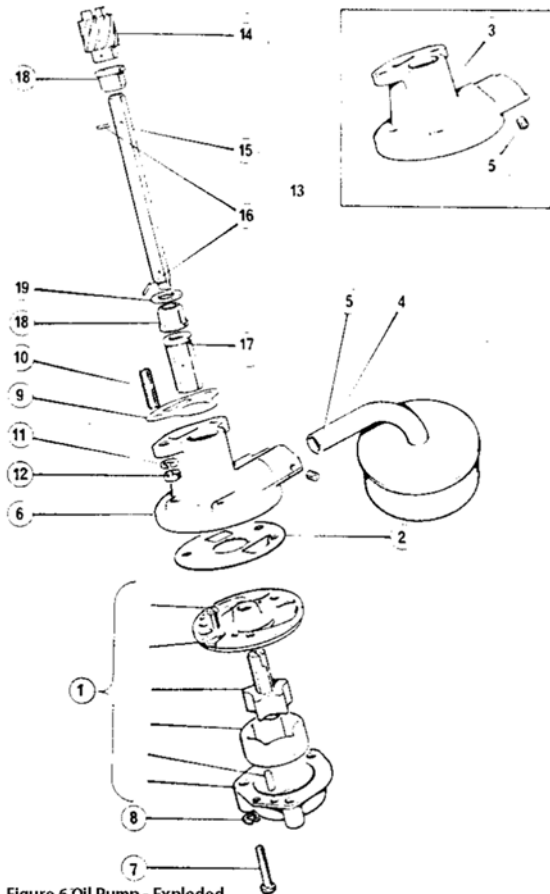

Figure 6 Oil Pump - Exploded
5. Unscrew two nuts complete with lock washers and remove the oil pump assembly, including strainer, from the cylinder block (Figure 6).